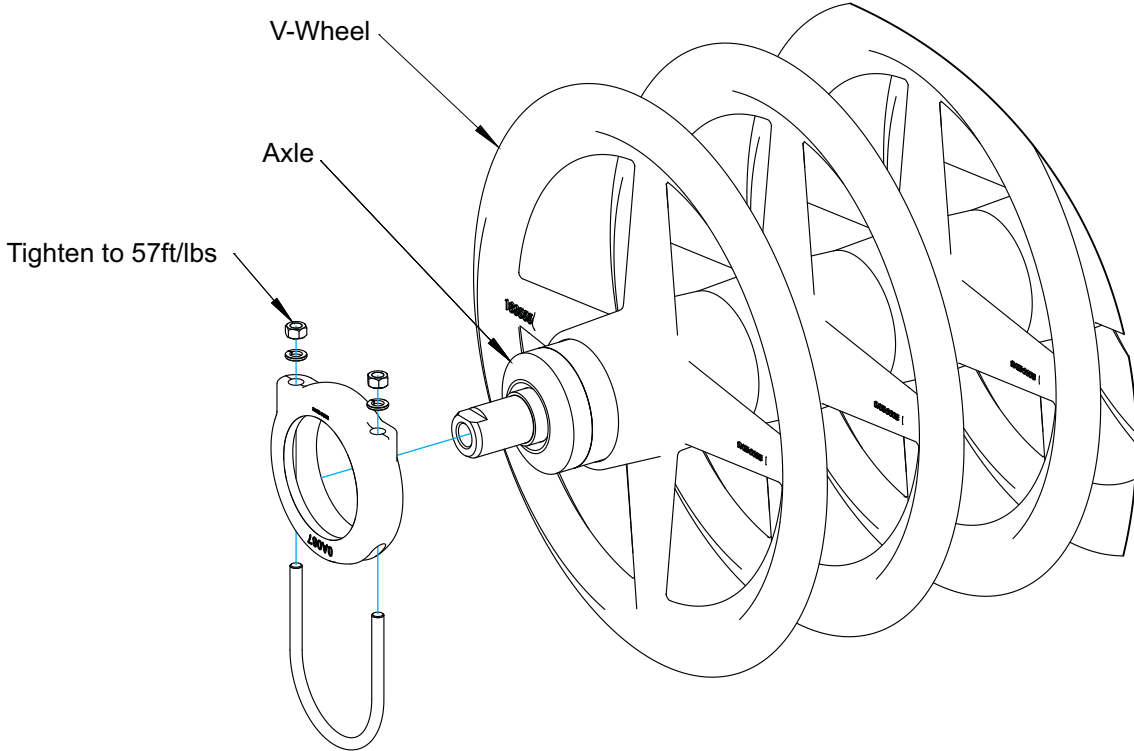

Figure 4-5: Clamp Tightening (2 of 2)
4. Tighten the U-Bolt evenly to 57 Ft/Lbs. **See Figure 4-5.**